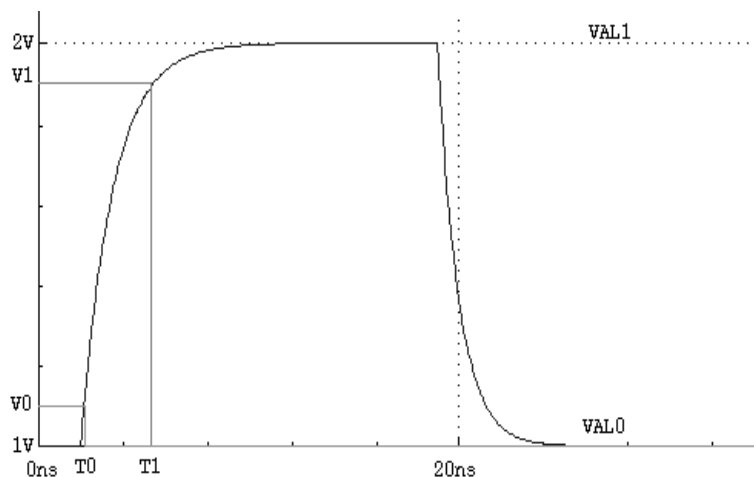

Figure 6-6 Wave Calculation
In the first example, the time of the first rise from 1V to 2V of the node voltage V(1) is calculated (Figure 6-6). The default value of COEF is used.